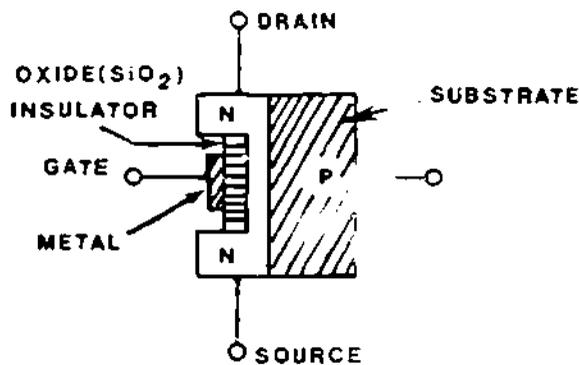

Figure 17
(18) Figure 17 repeats the illustration of an N-channel MOSFET.